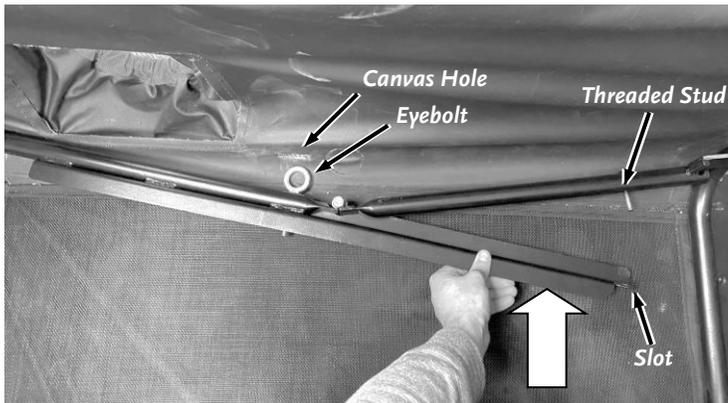

Figure 41
3. Next set the width of the front of the canvas by pushing in the Tube Hinge Assembly until both tube parts come together and the threaded stud feeds through the open slot. Make sure the Eyebolt is able to feed through the Canvas Hole during the process (**Figure 41**).